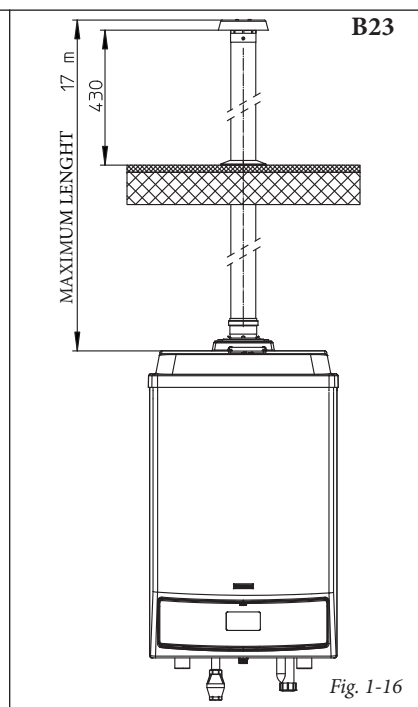

Fig. 1-16
- Extensions for vertical exhaust kits. The maximum vertical straight length (without bends), used for Ø 80 exhaust pipes is *17 metres* (Fig. 1-16).